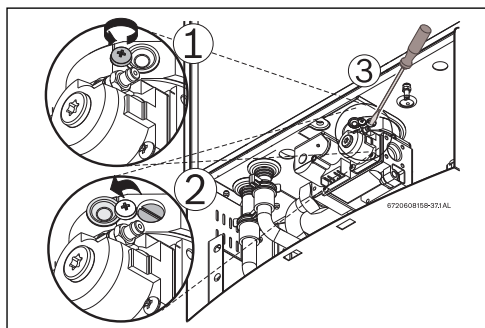

Fig. 61 Adjusting P1 CO₂ level
- ▶ Loosen yellow painted Phillips screw (1) and cover should rotate down (2) revealing a recessed brass slotted screw. Fig. 61.